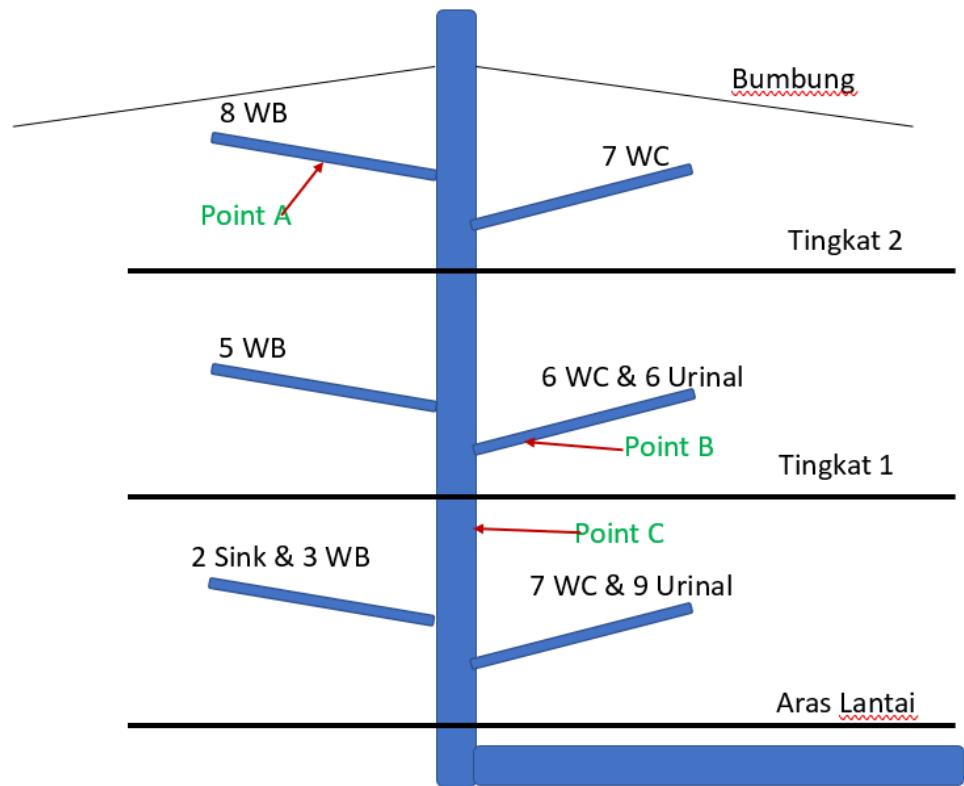

Figure 1: Sanitation pipe schematic diagram for a shopping mall
- CLO2 C3 (b) Referring to Figure 1 and Table 1, calculate the loading units at ‘Point A’, ‘Point B’ and ‘Point C’ for a shopping mall.